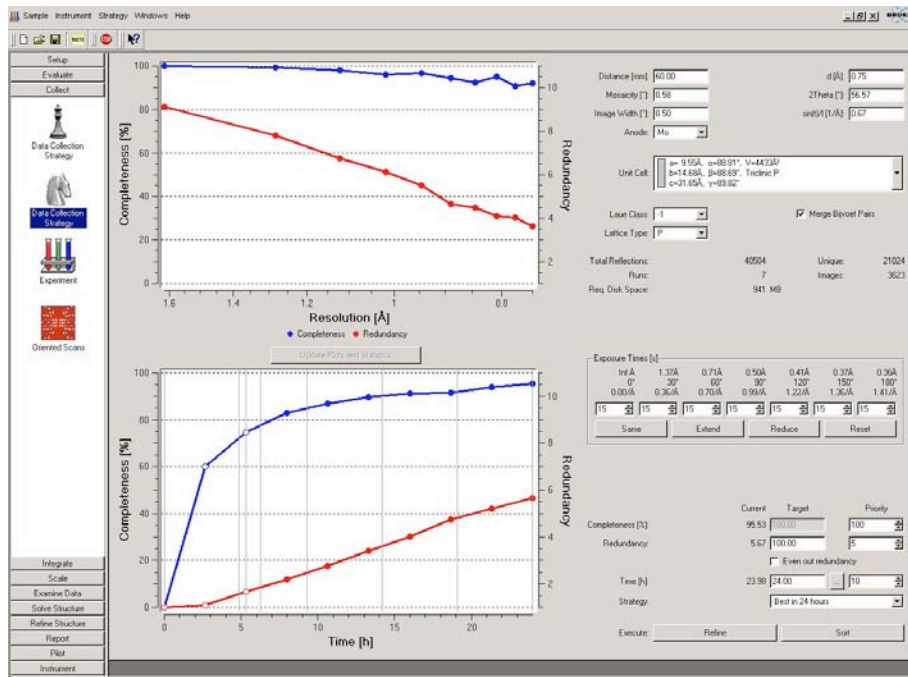

Figure 16
25) Under **Collect** in task bar, click **Data Collection Strategy**. Adjust necessary parameters in the new window (figure 16). Click **Refine** button to refine strategy. Stop the refinement when it is 30 to 50% finished and click **Sort**.